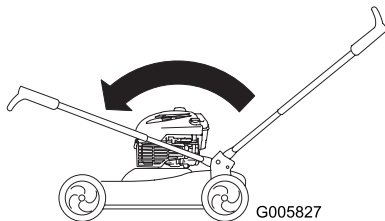

Figure 50
5. Rotate the handle forward (Figure 50).